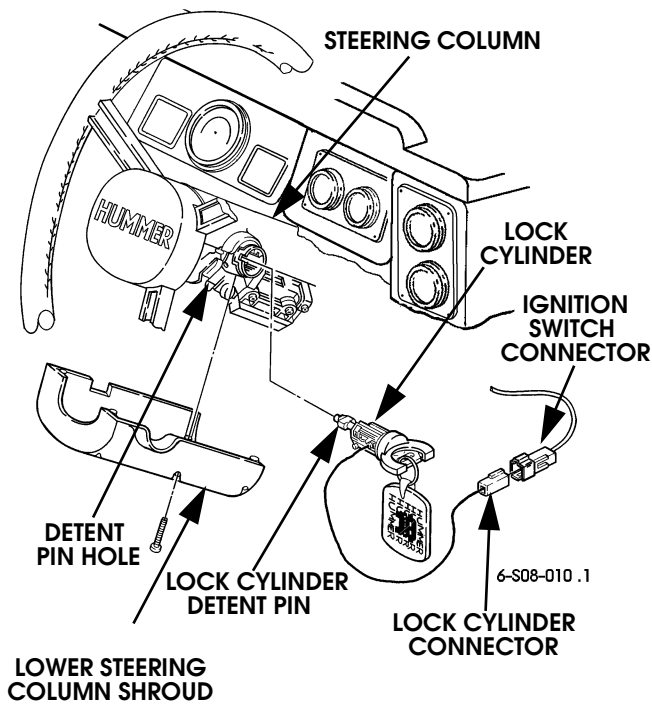

Figure 8-16: Ignition Switch Lock Cylinder Replacement
3. Remove five screws and lower steering column shroud (Figure 8-16).
1. Insert lock cylinder into steering column (Figure 8-16).